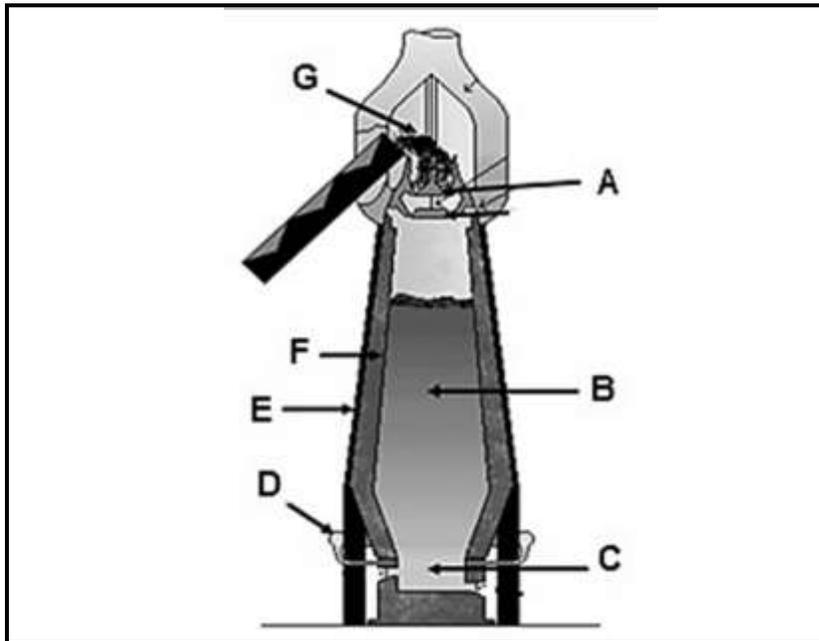

FIGURE 5.2
5.4.3 Open hearth furnace in FIGURE 5.2 below shows the cross-sectional view of a furnace.
5.5.1 Identify the furnace in FIGURE 5.2 above.